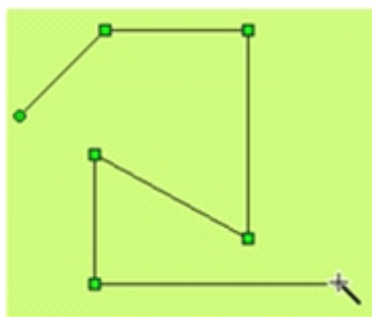

Figure 4-28: Drawing a polygonal line
- Move the mouse to another position in the screen, and at this moment the system will draw a line automatically. Move the mouse to a position where you want to change the direction of the line, left click the mouse once, and then a small green rectangle will appear. At this moment, the line from the first end to this green rectangle will not move along with the mouse. Then, move the mouse to another position where you want to change the direction of the line, and left click again. When a desired polygonal line has been drawn, right click the mouse to complete. See Figure 4-28.